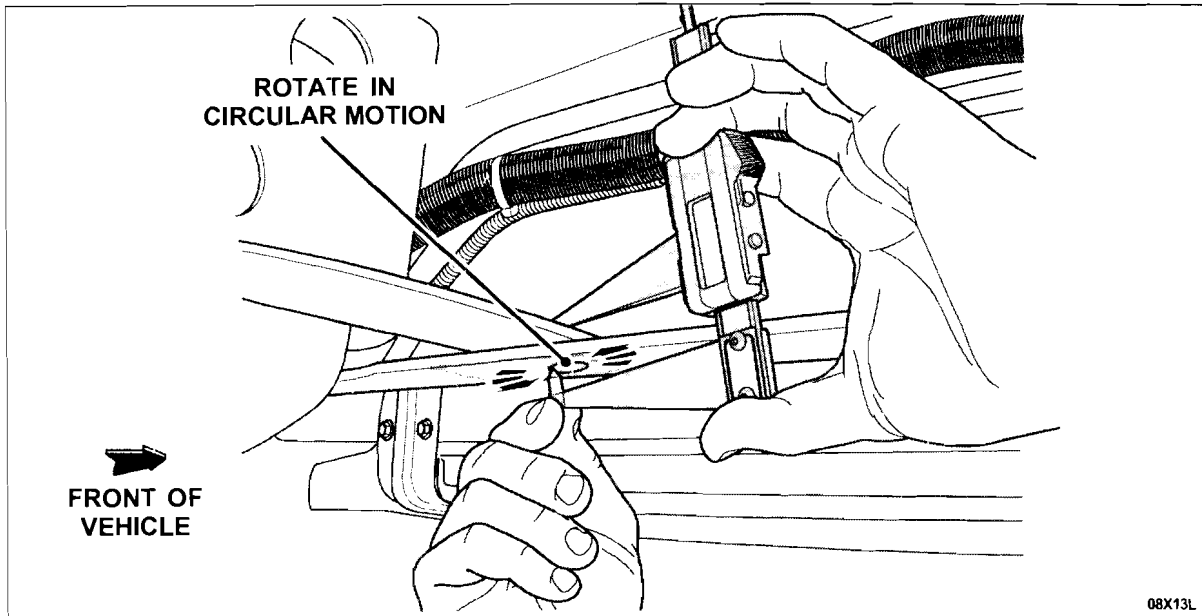

FIGURE 12
16. In a circular motion, rotate the disc brake micrometer in the ID of the fuel tank stopper bracket lower bolt hole while at the same time, scribing a circle into the chalk or equivalent on the frame rail. Repeat this step for both lower fuel tank stopper bracket bolt holes. See Figure 12.